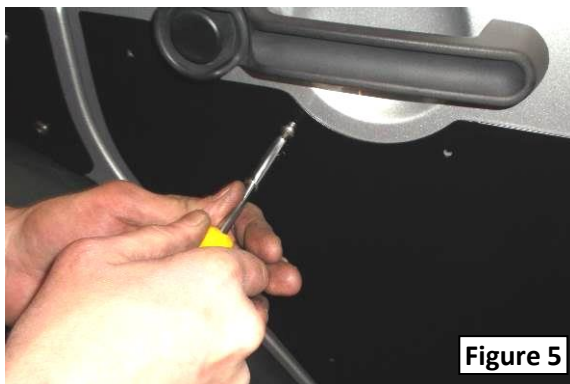

Figure 5
6. When you are ready, place an Armor Panel in its correct position and loosely start two of the Stainless Steel, Square Drive screws using the #3 Square Drive Bit to hold the panel in place. The sheet metal of the Jeep JK is very thin, therefore, we recommend that you tighten the screws by hand to avoid stripping. **(Fig. 5)** If you choose to use a power driver, we suggest you use one with a clutch set to a light setting and tighten them until they are "almost snug" then finish with the hand driver to snug them up. **DO NOT OVERTIGHTEN!!!**